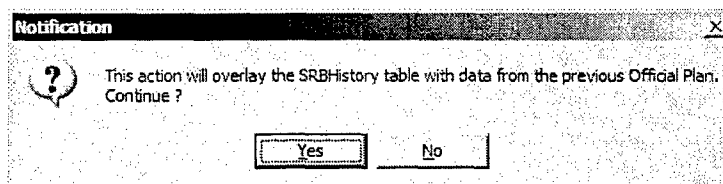

Figure 35. Undo Last Official Plan Change
2. Verify that you want to undo the last official plan change (Figure 35).